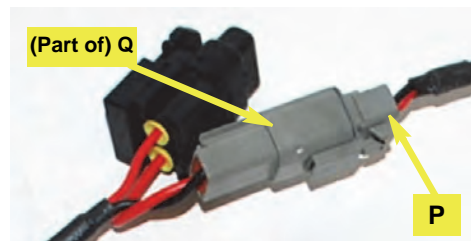

Figure 7c: Power cable to junction box cable
- d. Connect the gray connector of the power cable **P** (routed into the cab at step 7a) to the gray cable from the junction box **Q** (Figure 7c).